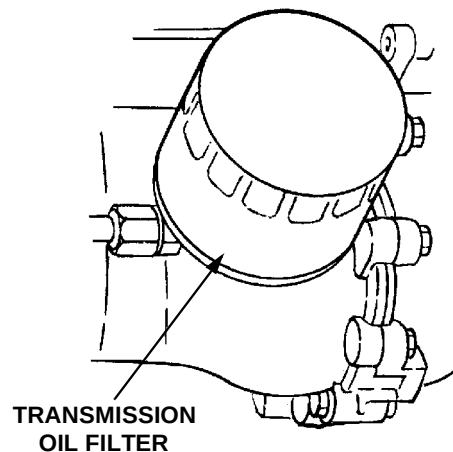

Figure 22
3. Clean around the base of the transmission oil filter and remove the filter by turning it counterclockwise (Refer to Figure 22).